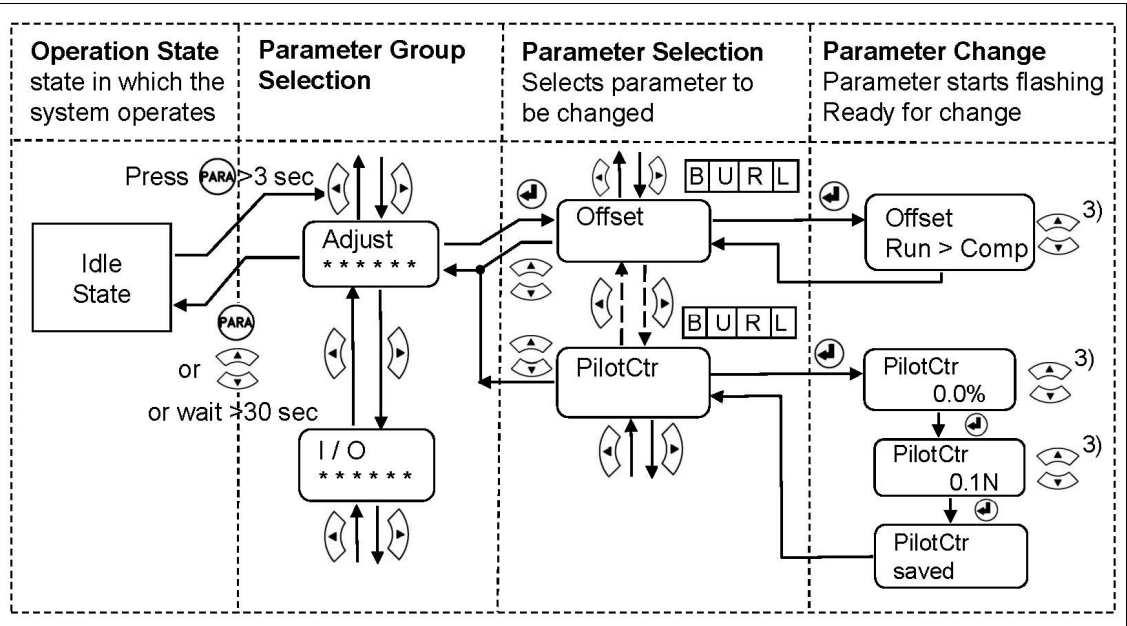

Fig. 28: State Diagram Adjustment Procedure “Pilot Control” C309026e
- In the parameter group Adjustment Procedures select the procedure *PilotCtrl*. Follow the instruction in Fig. 28: State Diagram Adjustment Procedure *Pilot Control*.